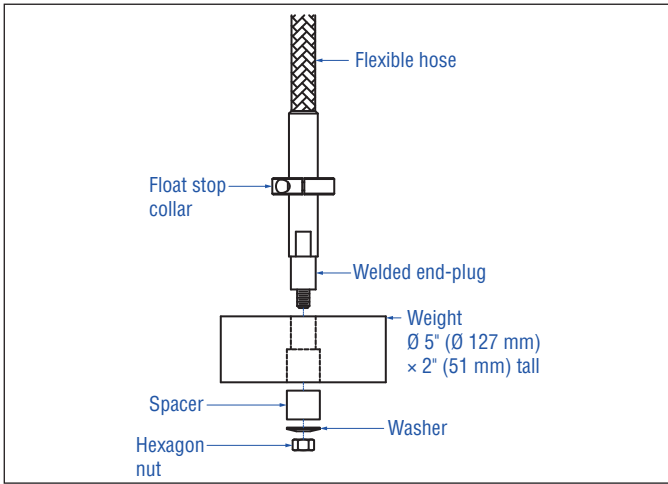
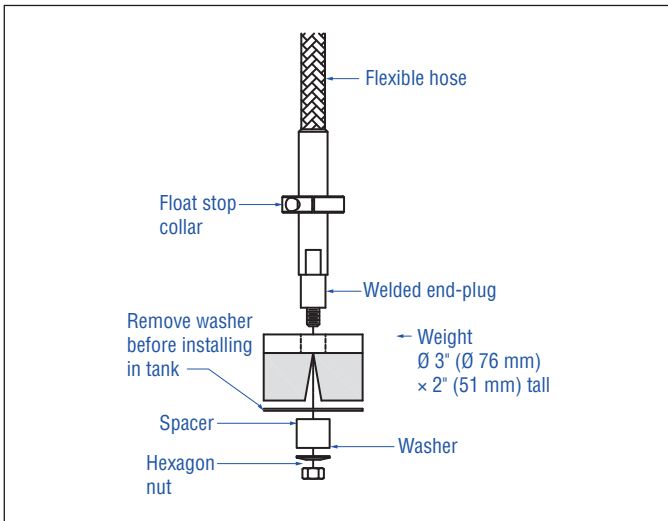
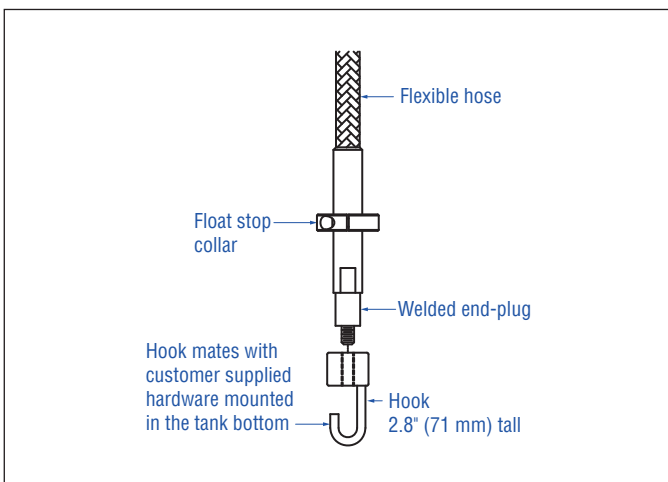

Fig. 6: Bottom fixing weight
Fig. 7: Bottom fixing magnet
Fig. 8: Bottom fixing hook
6. For the flexible hose mount the hook section of the pipe (this is the bottom rigid section of the pipe) using the supplied nut, spacer and washer, tighten securely as shown in Fig. 6, Fig. 7 and Fig. 8. For the magnet, remove washer before installing in tank.